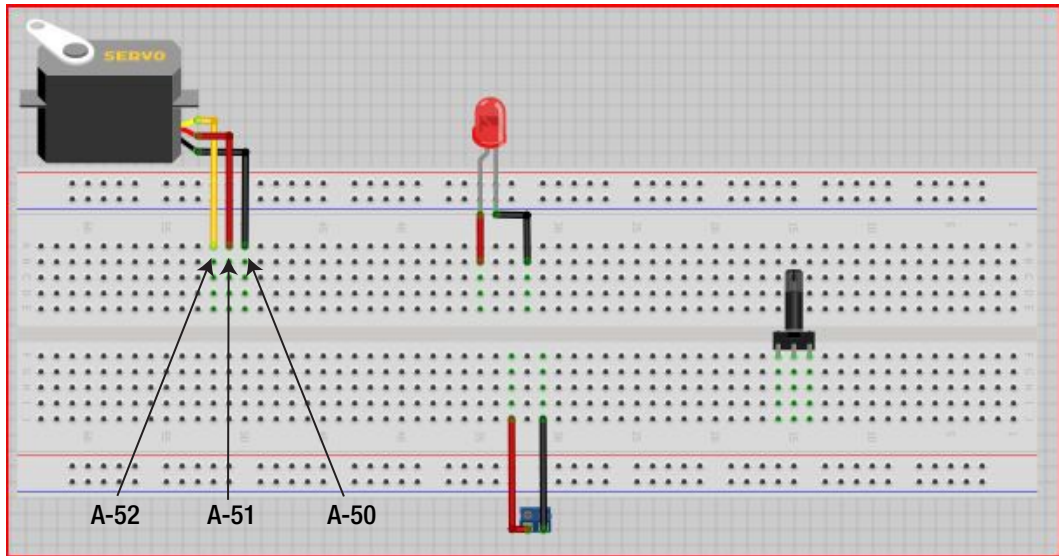

Figure 23-6. Attach the servo to the breadboard
- Now connect the servo to the breadboard. Be certain the signal wire (white, yellow, or orange) is inserted into A-52, the power wire (red) into A-51, and the ground wire (black) into A-50. Figure 23-6 illustrates this process.